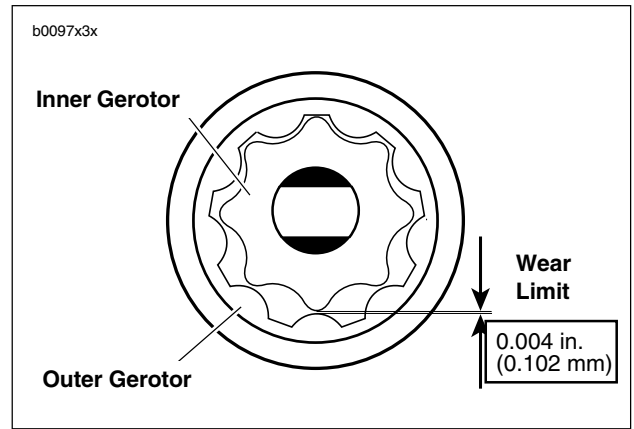

Figure 3-56. Gerotor Wear Limits
2. See Figure 3-56. Inspect both gerotor sets for wear.